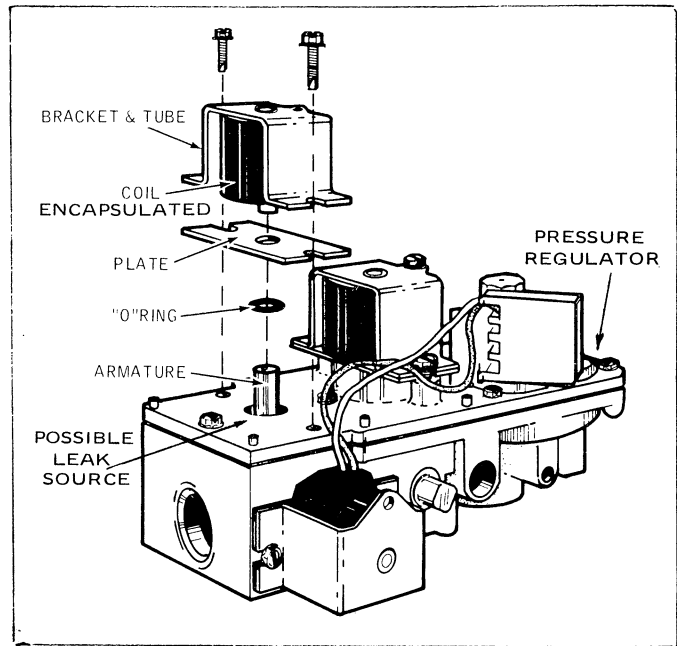

Figure 129
3. Position o-ring properly on extended tube, *Figure 129*